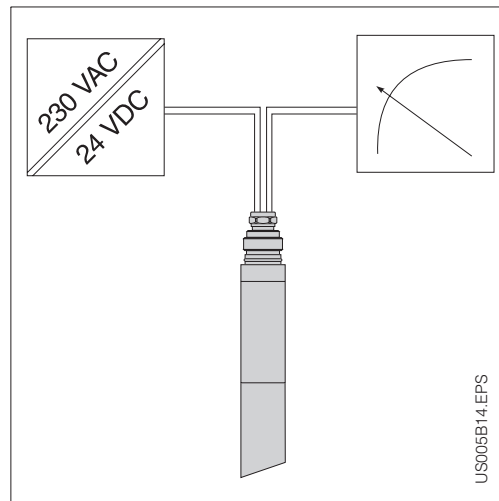
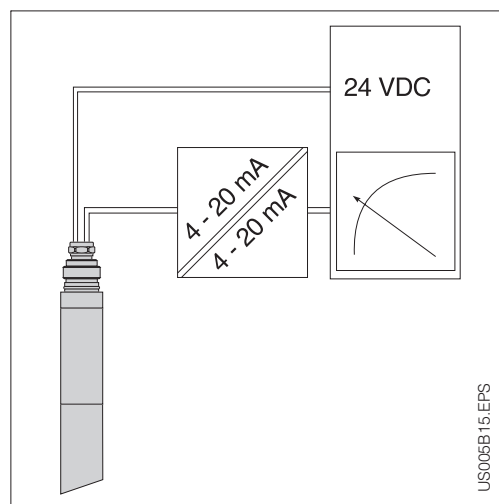

Fig. 4.1 Connecting the CUS 5 with galvanic decoupling via the power supply
Fig. 4.2 Connecting the CUS 5 with galvanic decoupling via a separation module
- The sensor contains no internal galvanic separation between the voltage supply and the signal output. Decoupling is achieved either from the supply voltage via a power supply (see fig. 4.1) or at the signal input by means of a separation module (fig. 4.2), as the sensor is not galvanically separated internally. A separation module is not required if the connected load can be applied potential-free.